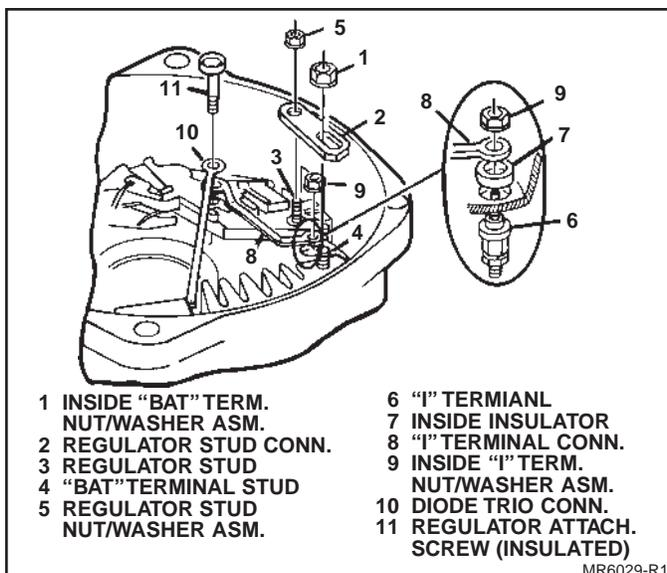

Figure 30. Regulator Connector, 1-Wire System
- For one-wire systems (Fig. 30), hold outside output terminal and temporarily remove inside output terminal nut. Install regulator stud connector to threaded stud and to inside output terminal stud. Reinstall output terminal nut/washer and install regulator nut/washer assembly to threaded stud on regulator (finger tighten).
- Second insulated regulator attaching screw to mounting hole in brush holder, passing through diode trio connector and "I" terminal connector, if used (Fig. 30). Finger tighten.